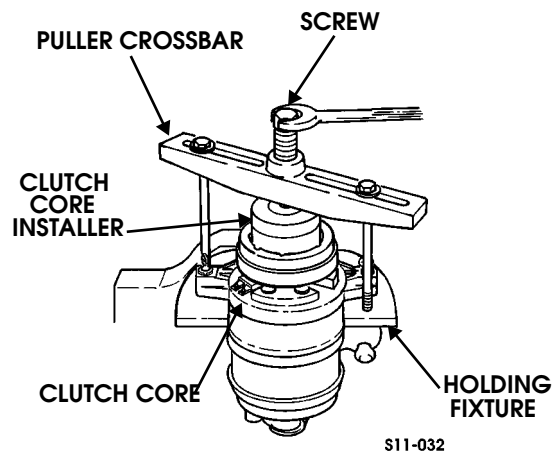

Figure 11-62: Clutch Core Installer
3. Center the puller crossbar in the countersunk center hole of the clutch core installer. Install the through-bolts and washers through the crossbar slots, and thread them into holding fixture. The thread of the through-bolts should engage the full thickness of the holding fixture. (Figure 11-62).